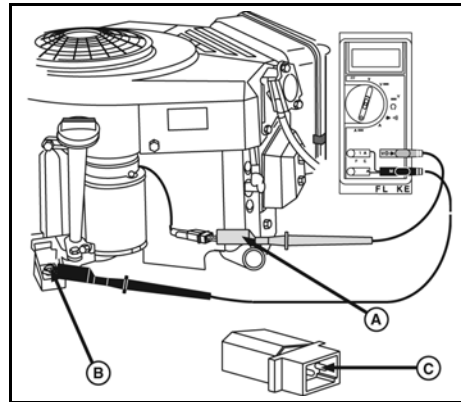

Figure 20
1. Insert RED test lead (A, Figure 20) into the V  $\Omega$  receptacle in the meter.
2. Insert BLACK test lead (B) into COM receptacle.
4. Attach RED test lead clip to AC output pin (C).